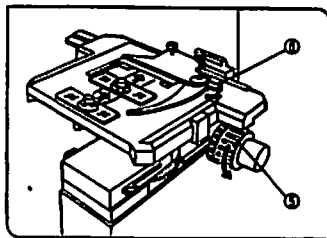

Fig. 39
1. Turn the coarse adjustment knob (2) to lower the stage.
2. Open the spring-loaded curved finger (3) on the specimen holder and place the specimen slides on the stage from the front.
3. After placing the specimen as far as it will go, gently release the curved finger. (Fig. 39)